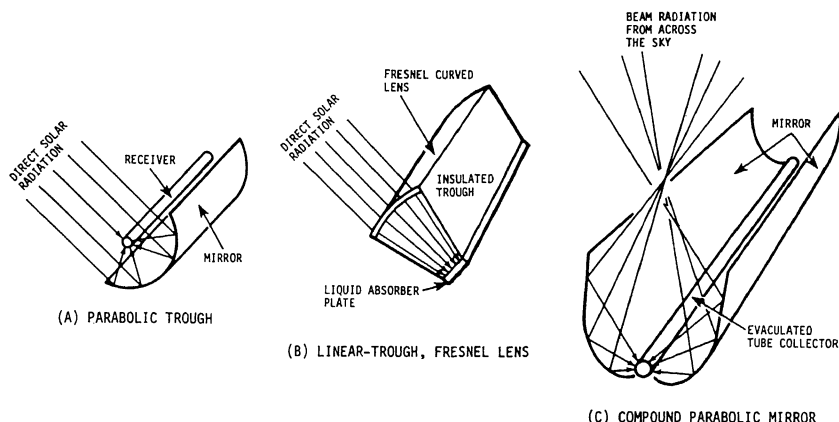

Figure 10-27.—Concentrating collectors for solar energy.
There are many types of concentrating collectors. The most popular types are the parabolic trough, the linear-trough fresnel lens, and the compound parabolic mirror. Figure 10-27, view (A), shows a linear concentrating or parabolic-trough collector. It collects energy by reflecting direct solar radiation off a large curved mirror and onto a small absorber tube that contains a flowing heat transfer liquid. The absorber tube is encased in a glass or metal tube that may be evacuated. This type of collector must track the sun and can collect only direct radiation.
Figure 10-27, view (B), shows a linear-trough, fresnel lens collector. In this design, a curved lens is used to focus incoming rays onto a small absorber plate or tube through which the heat transfer liquid is circulated. This type of collector also requires a tracking mechanism and can collect only direct radiation.
Figure 10-27, view (C), shows a compound parabolic mirror collector. The design of the mirrors allows the collector to collect and focus both direct and diffuse radiation without tracking the sun. Periodic changes in the tilt angle are the only adjustments necessary.